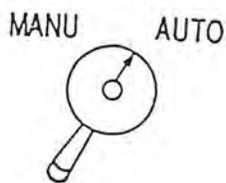

Fig 19-12
2. Toward feed engage/diengage lever (Fig 19-12) to auto position for automatic cross feeding.
4. Put feed engage/diengage lever (Fig 19-12) in manual position for cross manual movement.